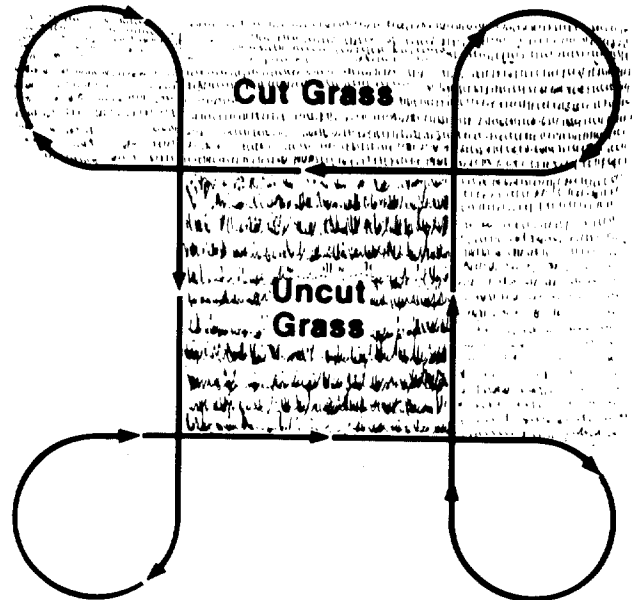

Figure 48
4. Follow the mowing procedure shown in Figure 48.